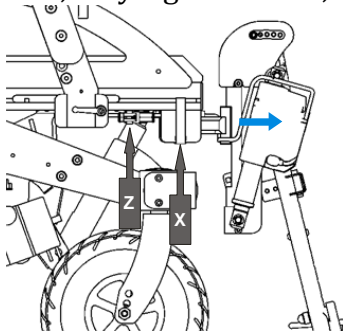

Figure 16
Seeing Figure 16 loosen the pin (Z) and move the platform to the desired height. Retighten the pin (Z).